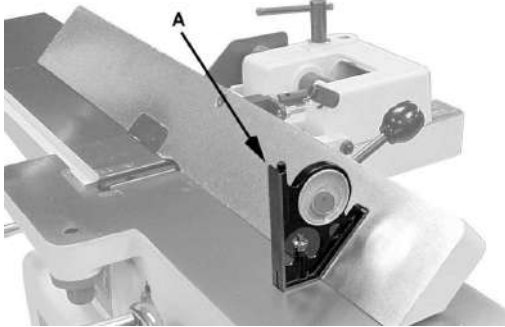

Fig 27
1. Loosen the lock handle (A). Move the stop plate (D) out of the way and position the fence at the 135° angle. Make sure the fence sits against the stop bolt. (E).
2. Tighten the lock handle (A)
3. Place an angle measuring device on the table and against the fence to confirm a 135° setting (A, Fig. 27).
4. To adjust, loosen the lock nut (F), turn the stop bolt (E) until a 135° angle is obtained.
5. Tighten the lock nut (F).